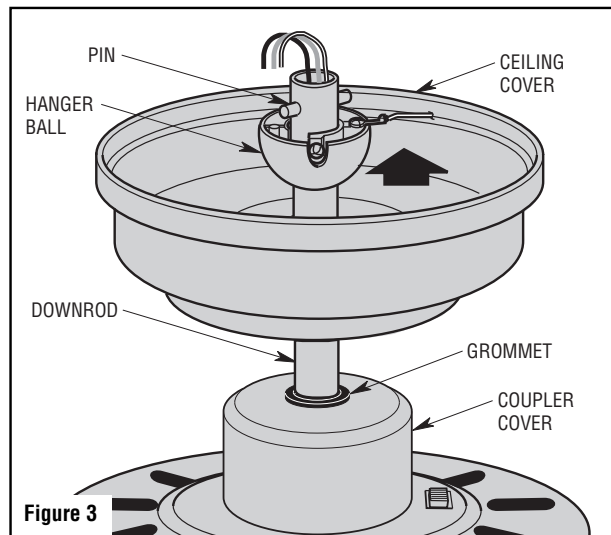

Figure 3
5. Make sure the grommet is properly installed in the coupler cover, then slide the coupler cover on the downrod until it rests on the motor housing. Place the ceiling cover over the downrod. Be sure that the ceiling cover and the coupler cover are both oriented correctly (Figure 3).
6. Reinstall the hanger ball (Figure 3) on the downrod as follows. Route the three 80" motor leads through the hanger ball. Position the pin through the two holes in the downrod and align the hanger ball so the pin is captured in the groove in the top of the hanger ball. Pull the hanger ball up tight against the pin and securely tighten the setscrew in the hanger ball. A loose setscrew could create fan wobble.